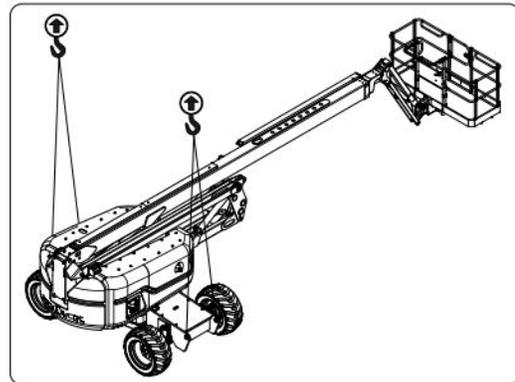

Figure 35 Lifting points
1. Rotate the boom and position the MEWP as shown in Figure 35.
4. Properly adjust rigging to ensure MEWP remains level during lifting. See Center of gravity location (Figure 35).